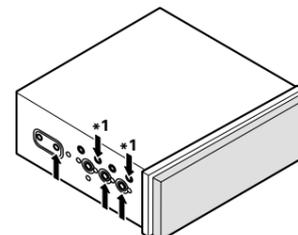
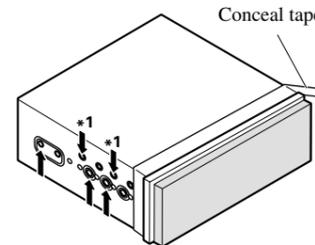
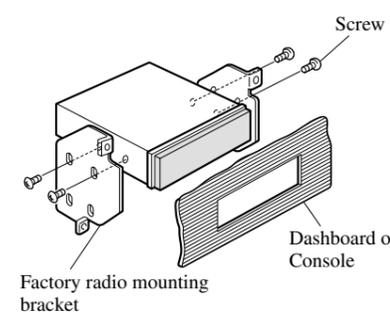

Fig. 14
Fig. 15
Fig. 16
- **Fastening the unit to the factory radio mounting bracket. (Fig. 14) (Fig. 15) (Fig. 16)**